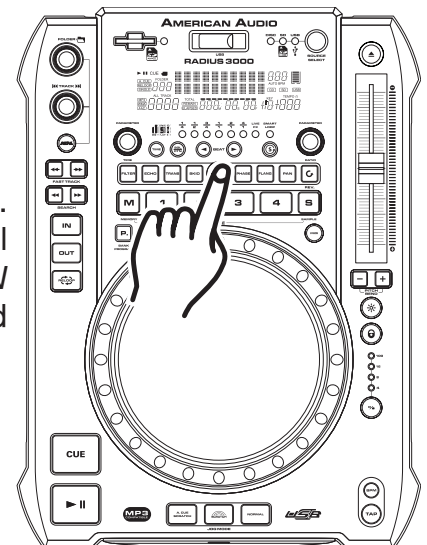

Figure 51
HOLD BUTTON: Use the *HOLD BUTTON (26)* to lock your parameters. If the hold button is not activated any changes to your parameters will be momentary. To activate the hold function press the *HOLD BUTTON (26)* as in figure 51. When the hold function becomes activated, the hold button will begin to glow blue.